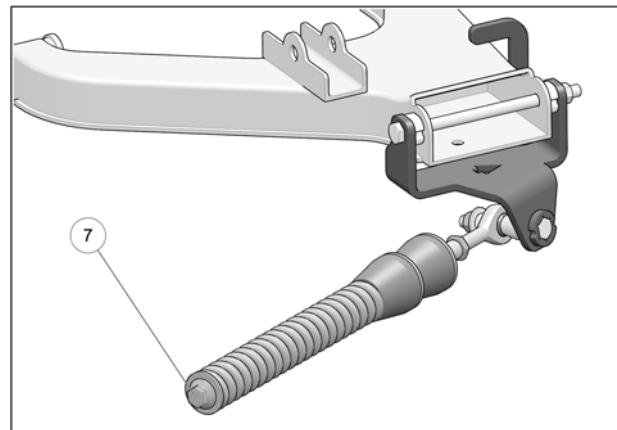

Fig. 14
- Verify that spring assembly bolt (7) is tightened to the recommended torque specification: 75 N·m [55 lb·ft]. Refer to Fig. 14